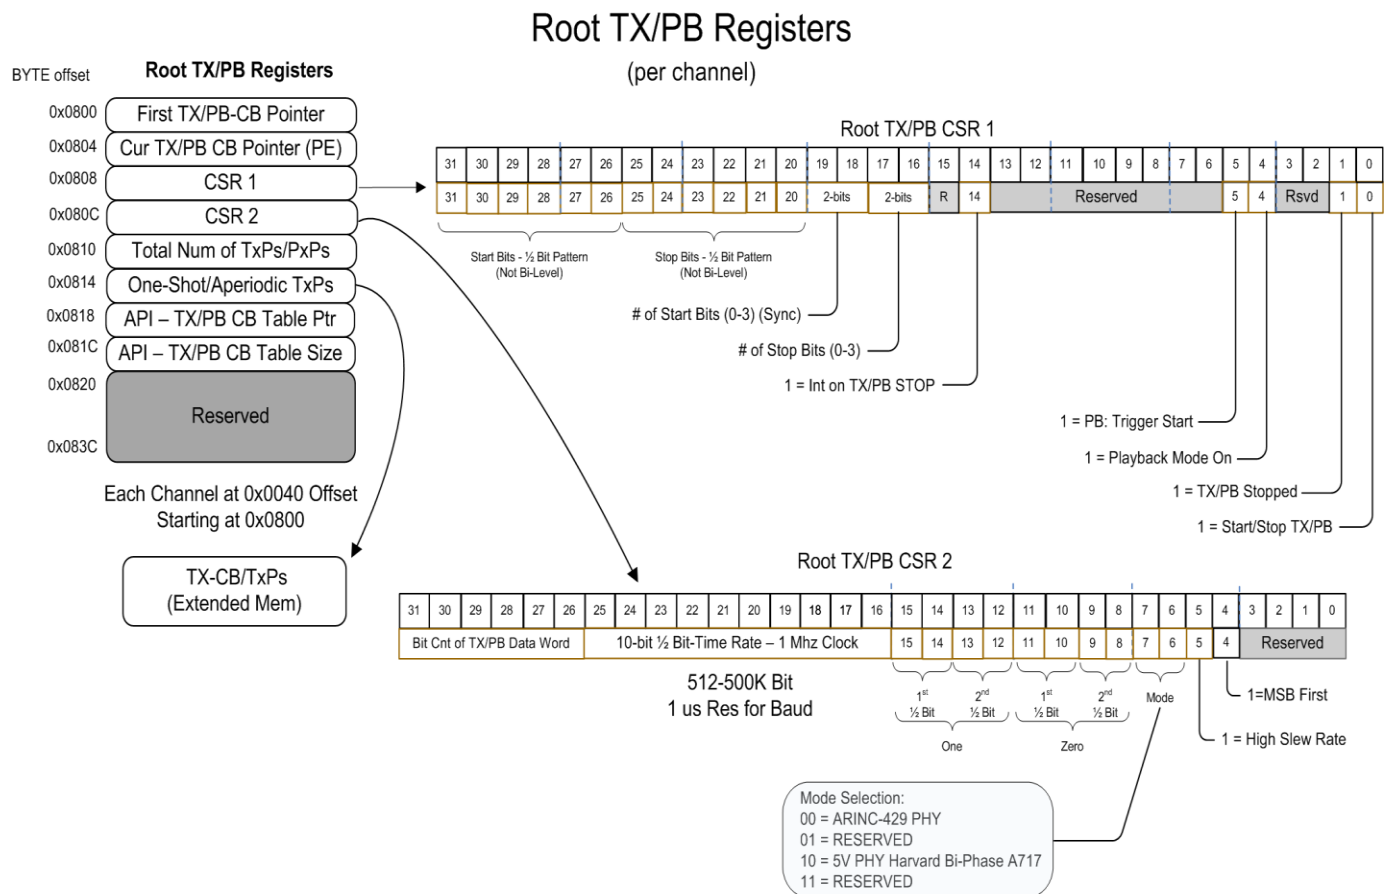

Figure TX-1: Root TX Registers and Root TX CSR
**NOTE:** The Root TX Registers are also shared with the Playback (PB) Registers, and thus, Figure TX-1 will have acronyms with TX/PB designations. For this section, ignore the PB designation. Please see the Playback section for descriptions of Playback operations.